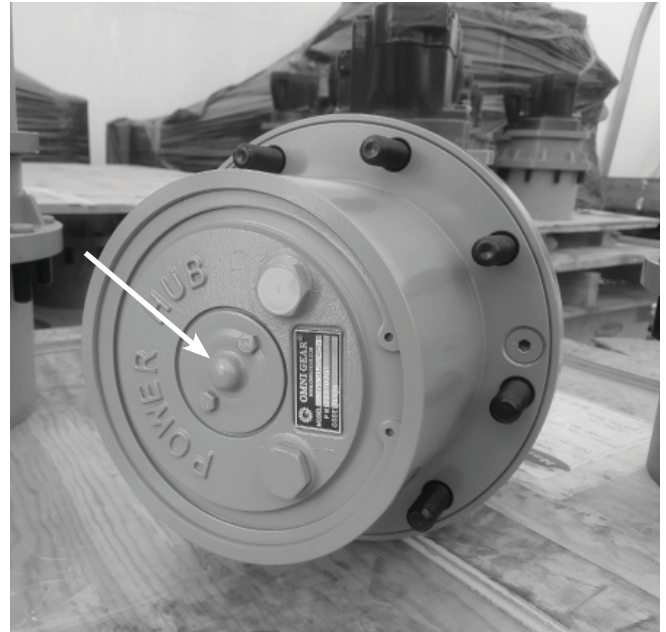

Figure 9.11
- Once the unit has been safely pushed / towed close the freewheel valve by turning it clockwise. At the rear drive wheels, remove the two bolts from the disconnect plate, turn the plate so the nipple points outward and reinstall the two bolts (see Figure 9.11).